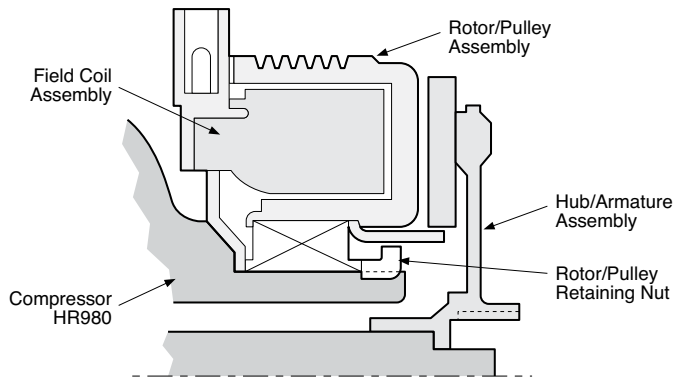

Figure 6
Step 2B: Installing the Field Coil (2) and Rotor/Pulley Assembly (4) (HR980 Compressor only)
- A. Align square holes in the back plate of the coil assembly (2) with lugs on the compressor (1) housing.
- B. With the field coil (2) in position, slide the rotor/pulley (4) onto the compressor until it butts against the field coil (2). (See Figure 6)
- C. Install the rotor/pulley retainer nut (6) with flange notches facing AWAY from the rotor/ pulley assembly. Tighten the retainer nut to 65 to 75 lb.ft. torque.